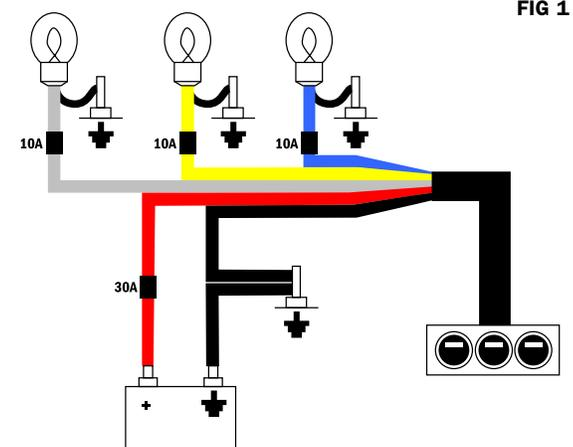

FIG 1
**STEP 10** Connect the red wire to the stock power connection. Connect the black wire to the bike chassis or designated ground point. These wires provide power and ground to the lights on the switch housing. See FIG.1 for a wiring diagram.
**STEP 12** Connect your accessory lighting power wires to the white, blue, and yellow wires; you may lengthen or shorten the wires as needed. Connect your accessory lighting ground wires to the negative terminal of the battery or the designated chassis ground. See FIG. 1 for a wiring diagram.